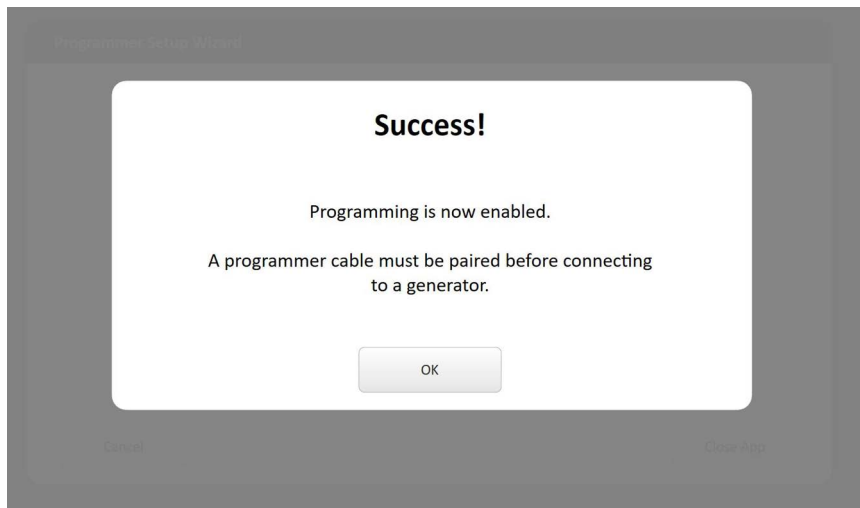

Figure 3-6. Programming Enabled Successfully Screen
- b. After a self-check and when programming is enabled successfully, the following screen displays (Figure 3-6). Select **OK** to continue.